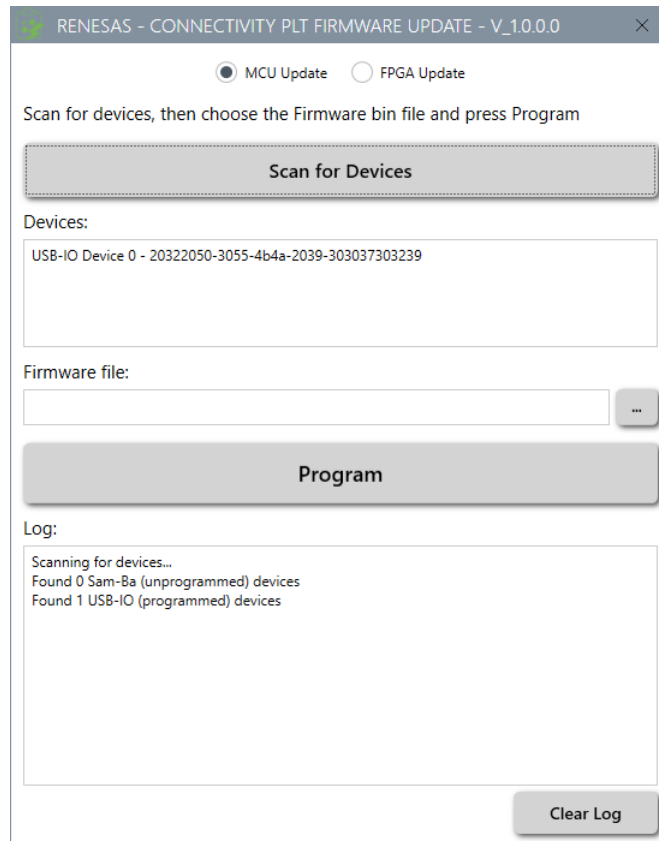

Figure 151. Device detection
2. If the hardware is connected correctly, you should see from one to four USB-IO devices corresponding to each connected PLT board, see Figure 151.